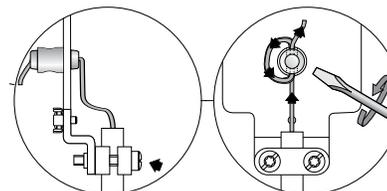

Figure 4: Cable Shortening
4. Loosen (2X) torx screws located on lower cord grip. [Figure 4]